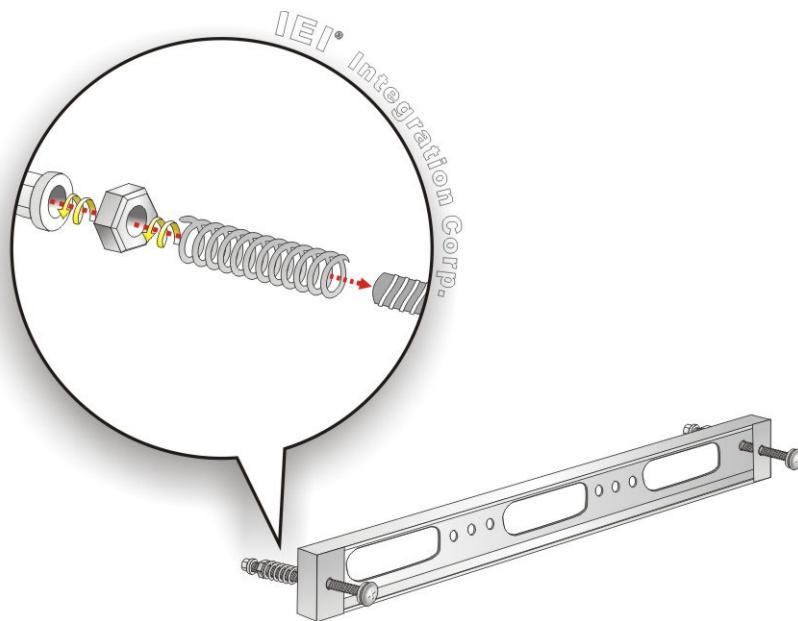

Figure 3-20: Rack Mounting Kit Installation
Step 2: Insert a M5*50 screw into the screw hole on the side of the rack mounting bracket. Then, install the following components onto the screw in sequence. See **Figure 3-20**.